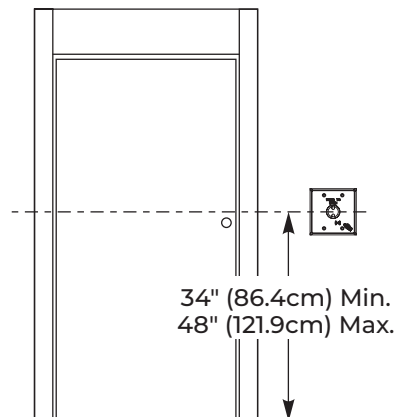

Figure 1
1. Measure and mark the wall with the horizontal centerline of the switch between 34" - 48" (86.4cm - 121.9cm) from floor. (Figure 1)